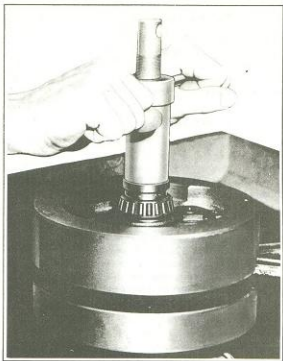

Figure 3-49. Pressing Bearing on Sprocket Shaft
Position flywheel assembly in vise with sprocket shaft up. Press bearing (15) on sprocket shaft using Bearing Installing Tool, Part No. 97225-55. Sprocket shaft spacer 24036-66 may be needed with bearing installing tool as shown in Figure 3-49. Press the parts on using sprocket shaft spacer as a pressing spacer only. Turn tool screw onto sprocket shaft thread and tighten securely. Remove tool handle and slip the bearing small end up over sprocket shaft, starting it squarely. Install the small bearing spacer (10) and tool sleeve and press bearing against flange on flywheel using the tool as shown in Figure 3-49.